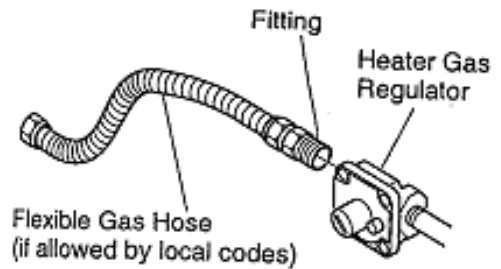

Figure 11 - Attaching Flexible Gas Hose to Heater Gas Regulator
1. Apply pipe joint sealant lightly to fitting threads. Connect approved flexible gas hose to gas regulator of heater (see Figure 11).
7. Mark screw locations through holes in mounting brackets (see Figure 11). If installing in a brick-bottom fireplace, mark screw locations in mortar joint of bricks.